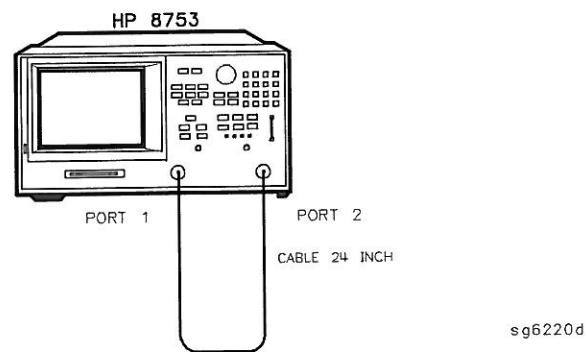

Figure 1-28. Setup for Test Port 1 Input Frequency Response
39. When the analyzer finishes the calibration sweep, connect the equipment as shown in Figure 1-28.